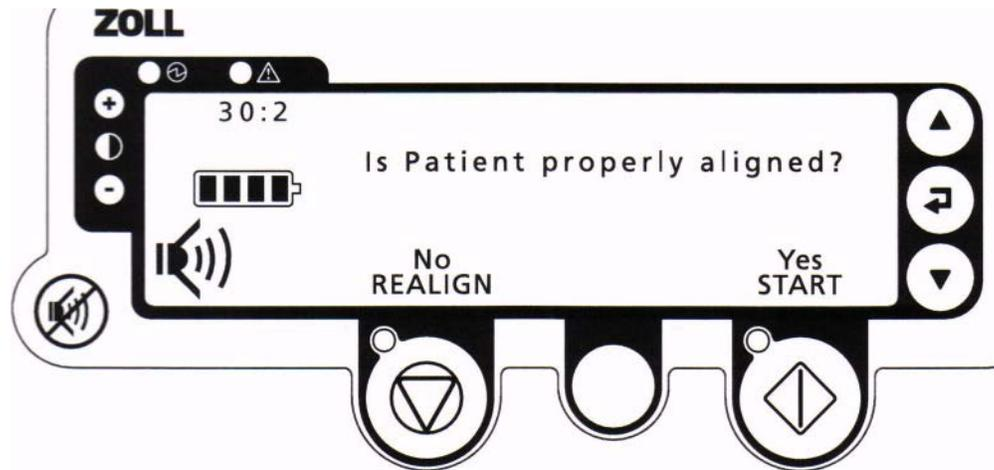

Figure 3-10 Verifying Patient Alignment Display Panel Screen
3. The AutoPulse will pause for 3 seconds to allow you to verify that the patient is properly aligned and that the LifeBand® has taken up any slack in the bands (see Figure 3-10).